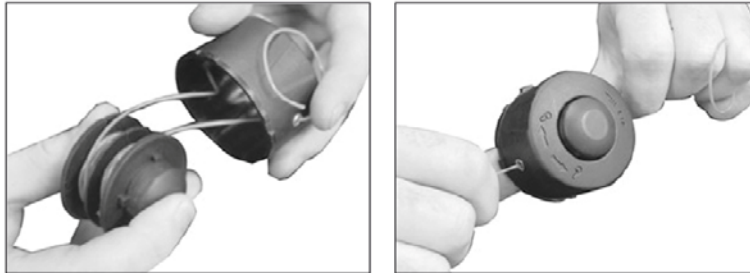

Fig. 8
1. Thread the ends of the line on the new spool through the holes in the spool cover (fig. 8).